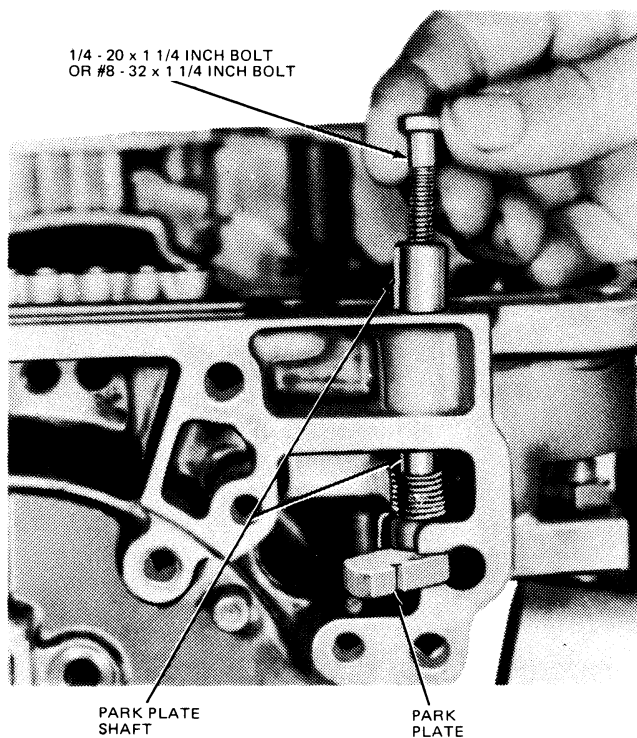

FIG. 29 Removing Park Plate
5. Thread a 1/4-20 inch or 8-32 x 1-1/4 inch screw (Fig. 29) into the park plate shaft. Pull the shaft from the case with the screw.